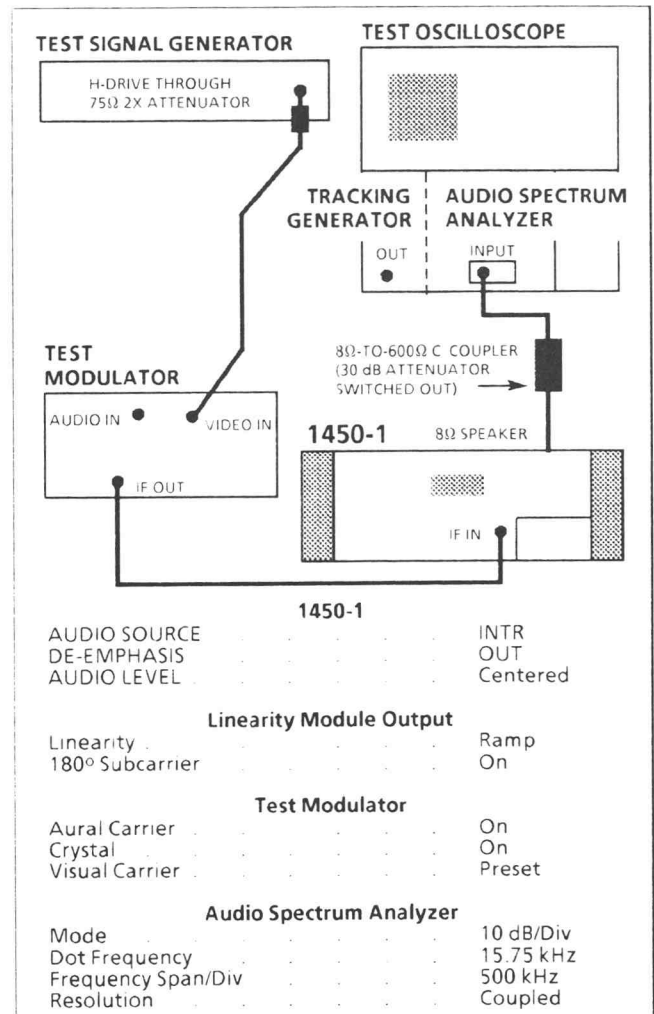

Fig. 4-68. Setup for adjusting notch filter.
- Connect and set the test equipment as shown in Fig. 4-68.